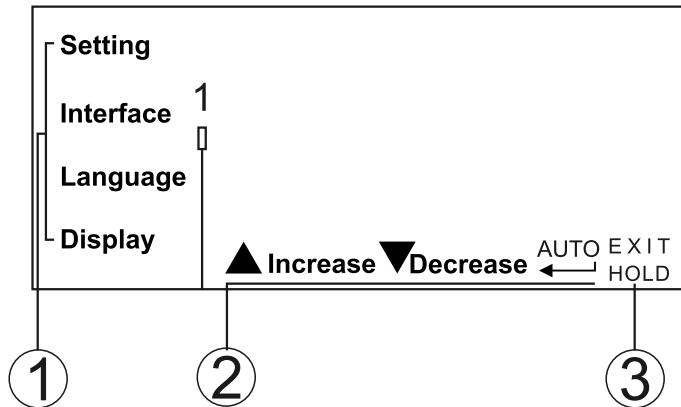

Figure 4
4. View of Main Interface for Instrument Setting (See Figure 4)